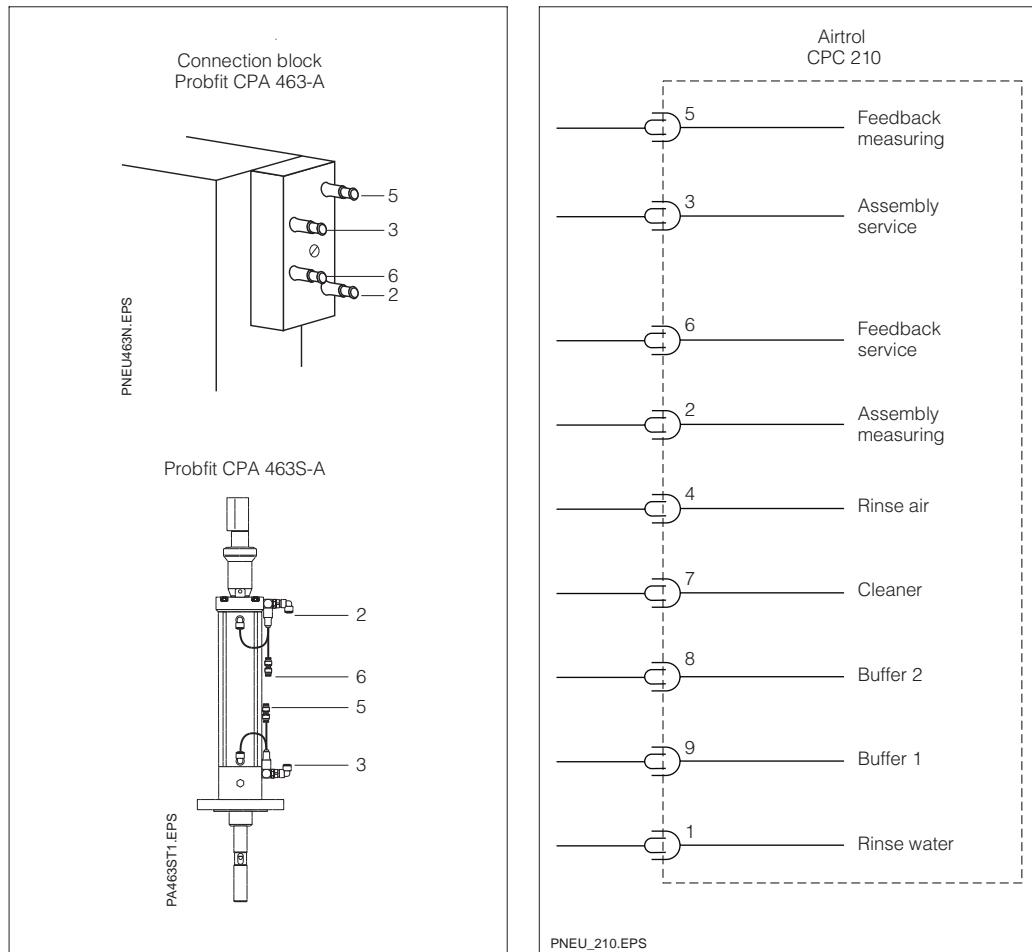

Fig. 3.5: Pneumatic connection diagram
- Connect the pneumatic hoses 1 to 9 to the retractable pH assembly Proffit CPA in accordance with the pneumatic connection diagram (see fig. 3.5). Also refer to the operating instructions for the retractable pH assembly.